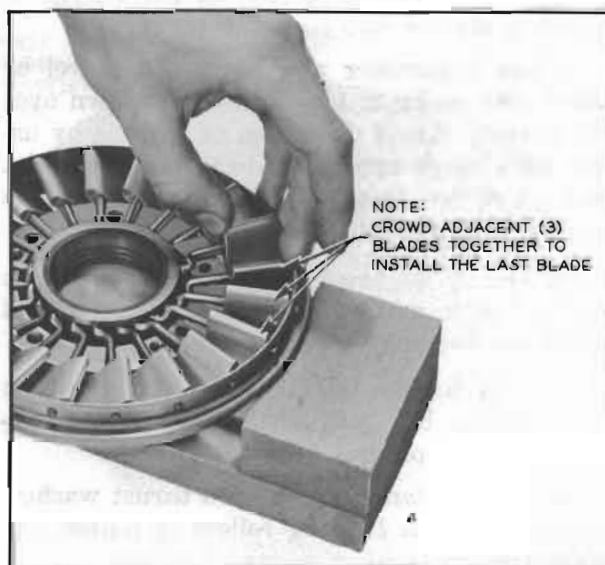

Figure 5-56—Inserting Last Blade
6. To insert the last blade it will be necessary to tilt the adjacent 3 blades. See Figure 5-56.